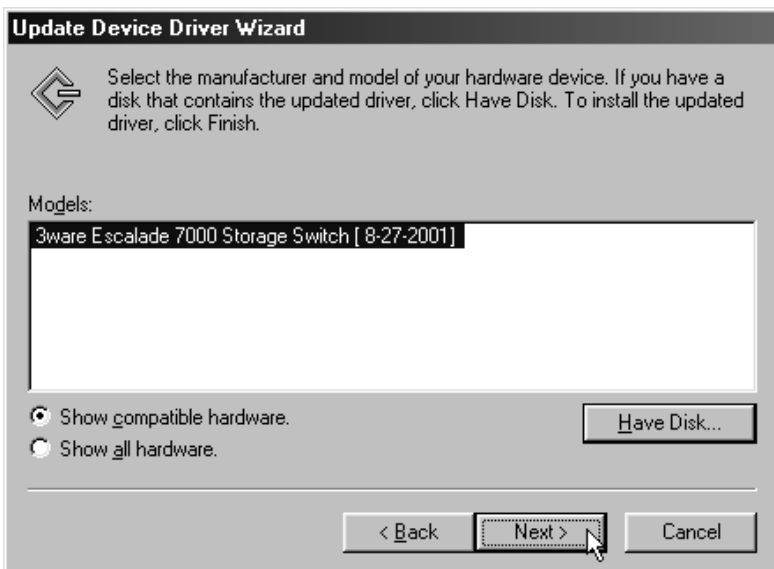

Figure 32. Update driver
- 4 The **Update Driver** dialog box appears (see Figure 32). Click on the correct storage switch listed in the dialog box to select it, then click on **Next**.